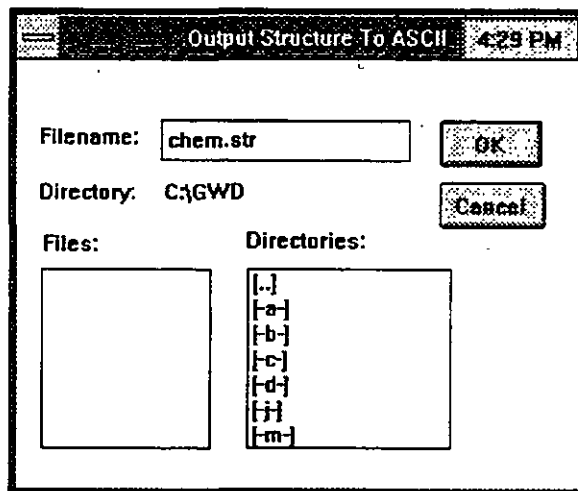

Figure 2-13
9. Type **Chem.str** when prompted for the file name. The display looks is as shown in Figure 2-13. The file